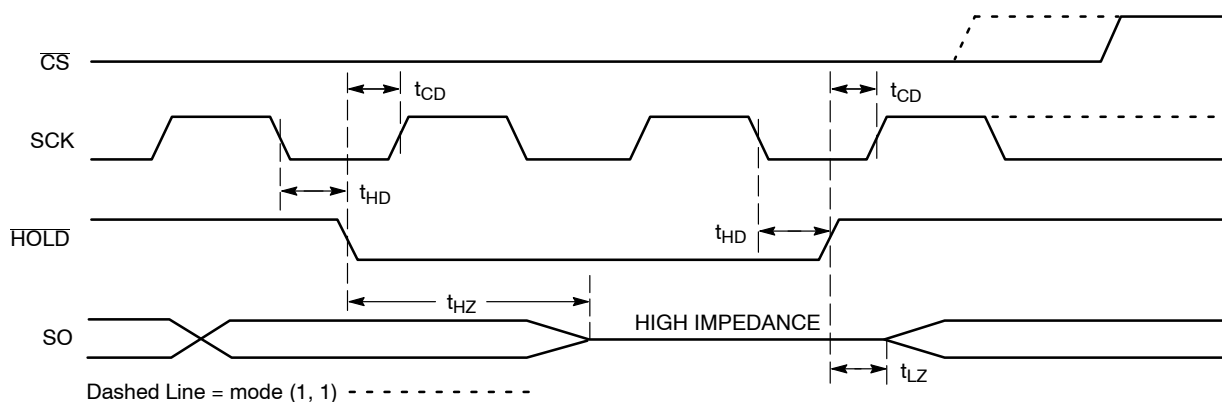

Figure 11.  $\overline{\text{HOLD}}$  Timing
The  $\overline{\text{HOLD}}$  input can be used to pause communication between host and CAV25080/160. To pause,  $\overline{\text{HOLD}}$  must be taken low while SCK is low (Figure 11). During the hold condition the device must remain selected ( $\overline{\text{CS}}$  low). During the pause, the data output pin (SO) is tri-stated (high impedance) and SI transitions are ignored. To resume communication,  $\overline{\text{HOLD}}$  must be taken high while SCK is low.